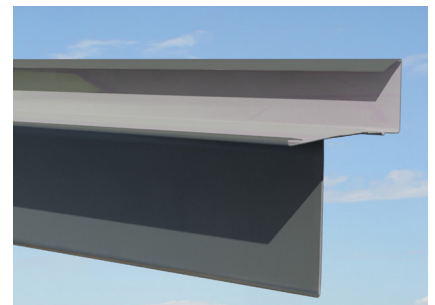

Fig.3.
6. Cut away a rectangle 15mm in from the end of the trim beneath the drip bead. (Fig.3).